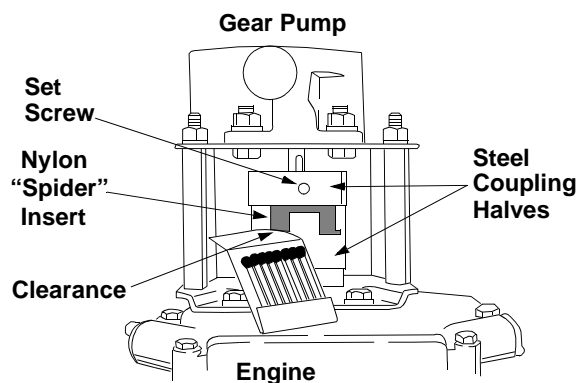

Figure 16
- Set .010” to .060” clearance between the nylon “spider” and the engine coupling half by sliding a matchbook cover between the nylon “spider” and the engine coupling half and moving pump coupling half as needed. Secure pump coupling half with set screw. See Figure 16.